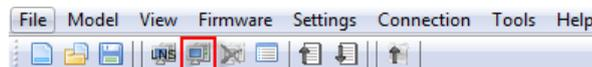

Figure 13: LINX Configurator software, Connect to device
1. Select the IP connection method by clicking on the **Connect to device** button in the tool bar as shown in Figure 13.